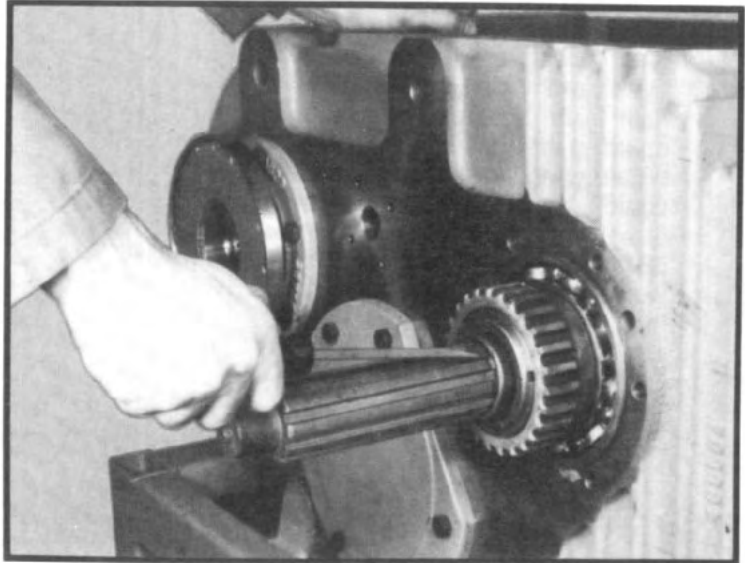

Fig. 50
- 2.14 Remove retaining ring from front of inner shaft and remove inner shaft from lower shaft. (See fig. 50.)